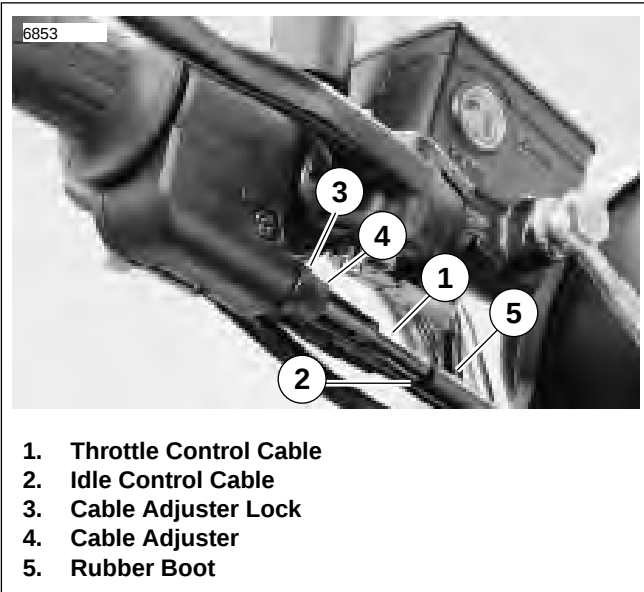
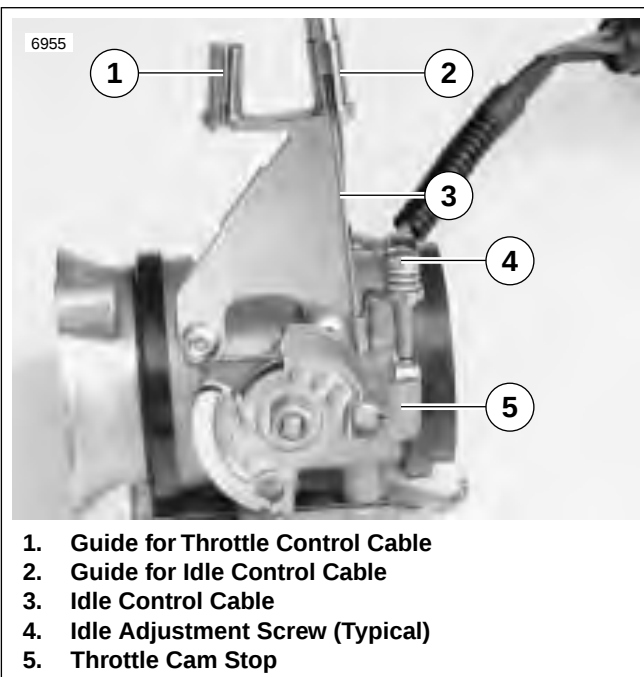

Figure 1-51. Throttle and Idle Cable Control Cables
Figure 1-52. Throttle Body Manifold (Typical)
2. See Figure 1-51. Slide rubber boot (5) off each cable adjuster (4).
3. Loosen cable adjuster lock (3) on each cable (1, 2).
6. See Figure 1-52. Turn adjuster on throttle control cable until throttle cam stop (5) touches stop plate. Tighten jam nut on throttle control cable adjuster; release throttle control grip.
7. Turn handlebars fully to right. Turn adjuster on idle control cable (3) until end of cable housing just touches the cable guide (2).
8. See Figure 1-51. Twist and release throttle control grip a few times. Throttle plate must return to idle position each time throttle grip is released. If this is not the case, turn adjuster (4) on idle control cable (2) (shortening cable housing) until throttle control functions properly.
9. Tighten cable adjuster lock (3) on idle control cable (2). Recheck operation of throttle control.
10. Slide rubber boot (5) over each cable adjuster (4). Recheck engine slow idle speed; adjust if required.